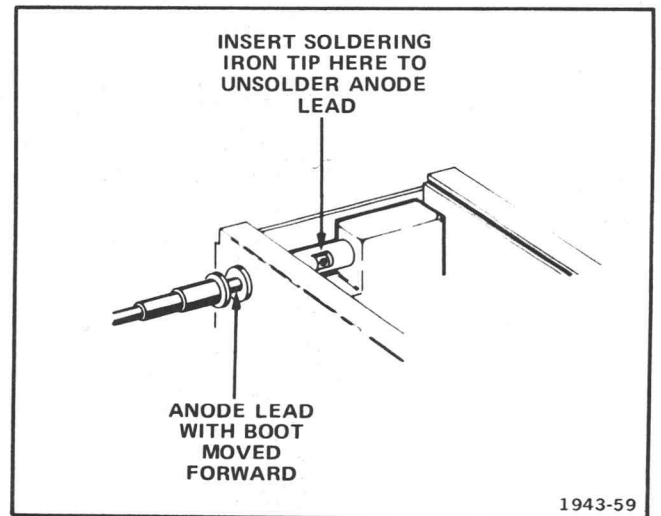

Fig 4-12
4. Slide the plastic boot on the anode lead toward the front of the 335 (see Fig. 4-12). Unsolder the anode lead.